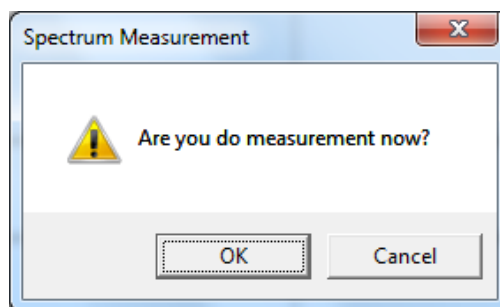

Figure 4. Initiating Data Acquisition.
- 5.2.5 Once all this is completed, clicking 'OK' displays a message indicating that the parameters are being transferred to the main unit and opens the window in Figure 4. Click 'OK' to initiate data acquisition.